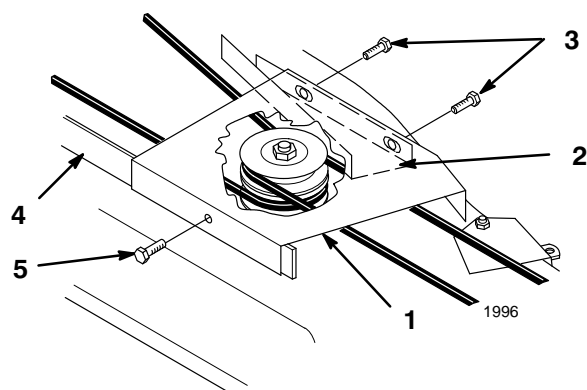

Figure 20
- On 48" mowers, mount the belt cover loosely to the outside of the belt cover bracket using (2) 1/4 x 3/8" (10 mm) flange screws and to the rear rib using a 1/4 x 1/2" (13 mm) flange screw (Fig. 20).